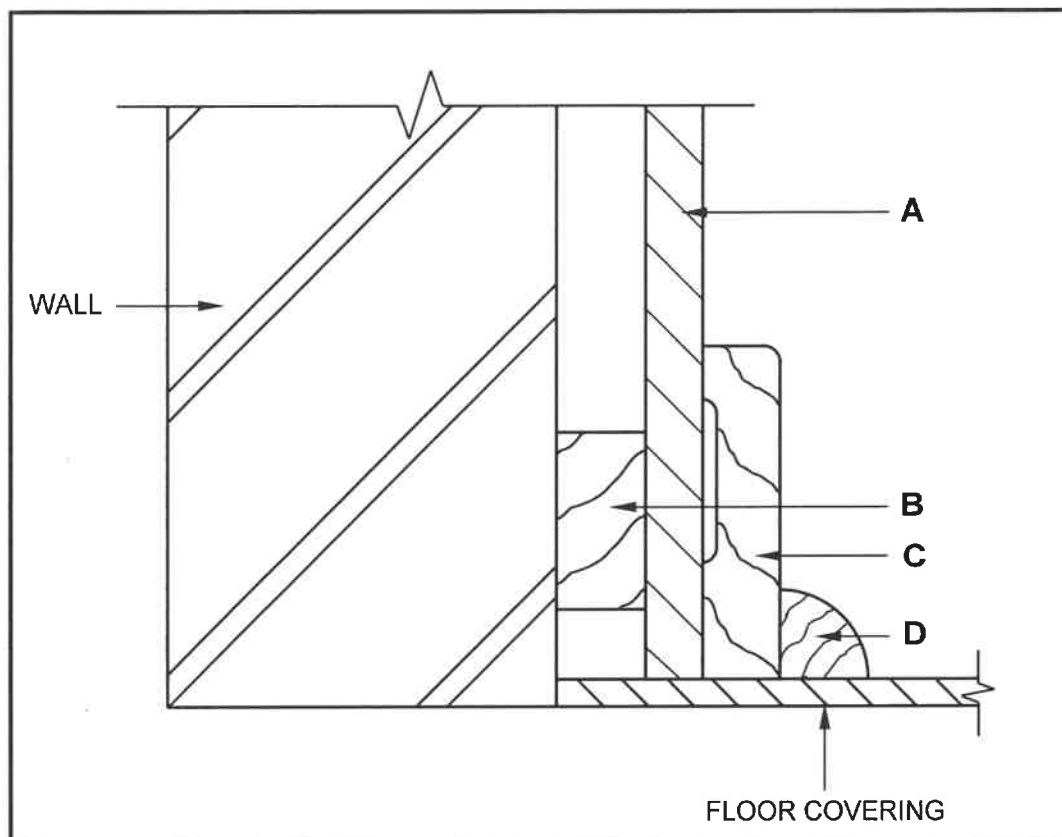

FIGURE 3.2
3.2 FIGURE 3.2 below shows the vertical section through the bottom part of the wall panelling.